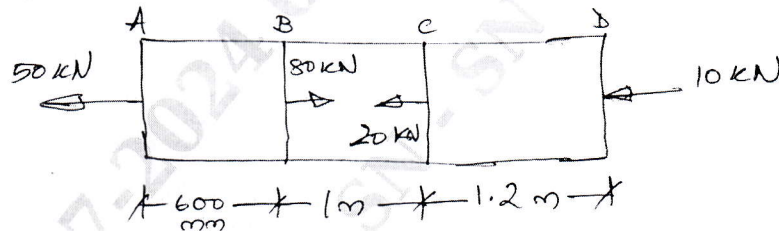

Fig.Q2(c)
- c. A brass bar, having cross sectional area of 1000mm^2 , is subjected to axial forces as shown in Fig.Q2(c). Find the total elongation of the bar $E = 1.05 \times 10^5 \text{N/mm}^2$.